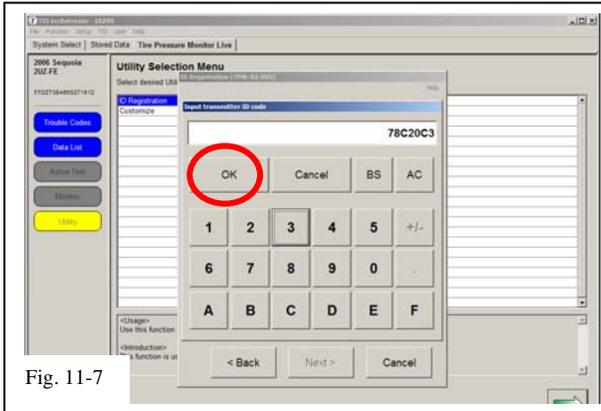

Fig. 11-7
- (j) Input the TPMS ID code then click “OK” Repeat the same procedure for all other TPMS ID codes. (Fig. 11-7) **NOTE:** If this process is not completed within 5 minutes, the transmitter will return to normal operation mode and process will need to be started over at step 11 (g).